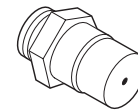

Figure 9
Step 13. Unscrew the orifice from the manifold and replace it with the one provided with this kit (**Figure 9**).